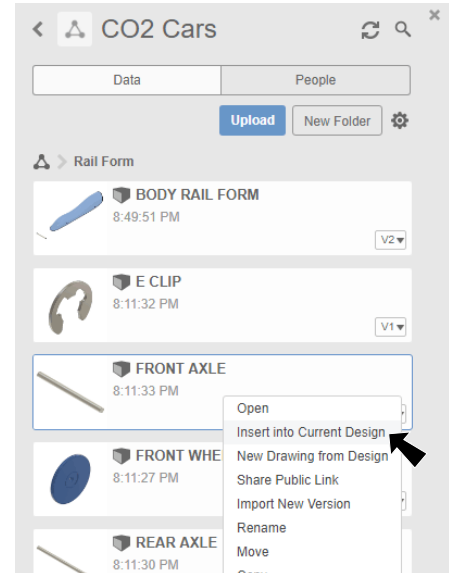

Fig. 5
Step 2. Right click **FRONT AXLE** file and click **Insert into Current Design**, Fig. 5.